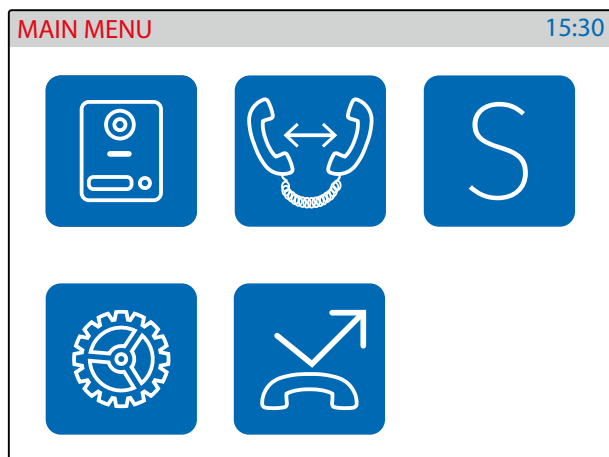
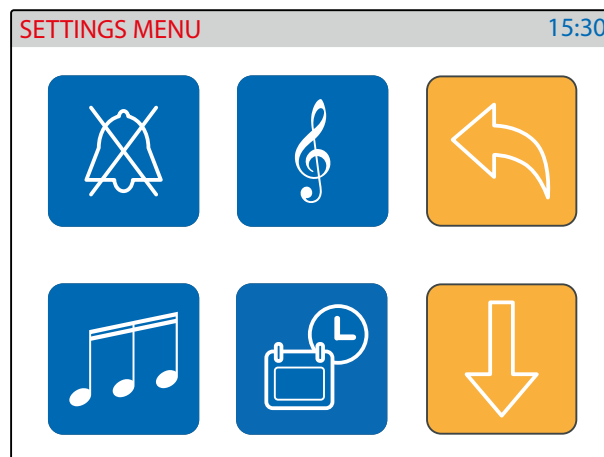
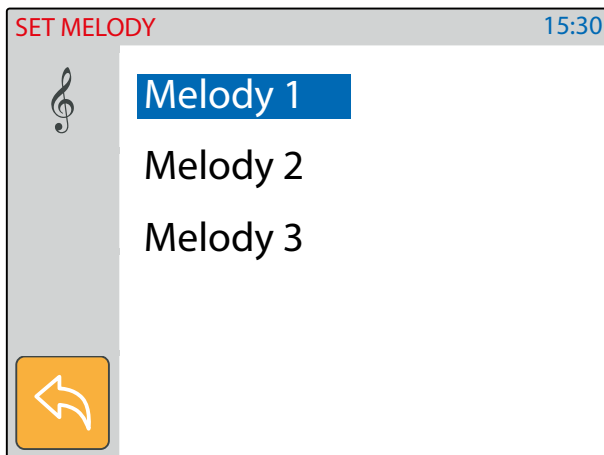

Fig. 4 Main menu
Fig. 5 Settings menu 1/2
Fig. 9 Listen the available melodies
3. Apply the **(Y)** silicon sealant on top of each module as shown in **Fig. 4**;
- Programmable settings are: Privacy duration, Melody, Number of Rings and Date & Time (Fig. 5)
If the screen is black, first tap on it to see the main menu (Fig. 4) then tap on the gear icon to open the settings menu (Fig. 5)
- Tap on the privacy icon (Fig. 5 on page 16).
- Tap on the melody icon (Fig. 5 on page 16), the current melody is shown, tap on a melody to listen to it (Fig. 9) then tap on the tick button to confirm the selected melody.
- Tap on the rings icon (Fig. 5 on page 16).
- Tap on the date & time icon (Fig. 5 on page 16)